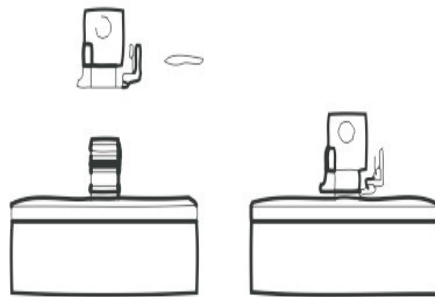

Figure 2
5. Connect the hose to the water cooler by depressing the knob on the hose cap and sliding it over the connector on the top of the cabinet. **(Figure 2)**